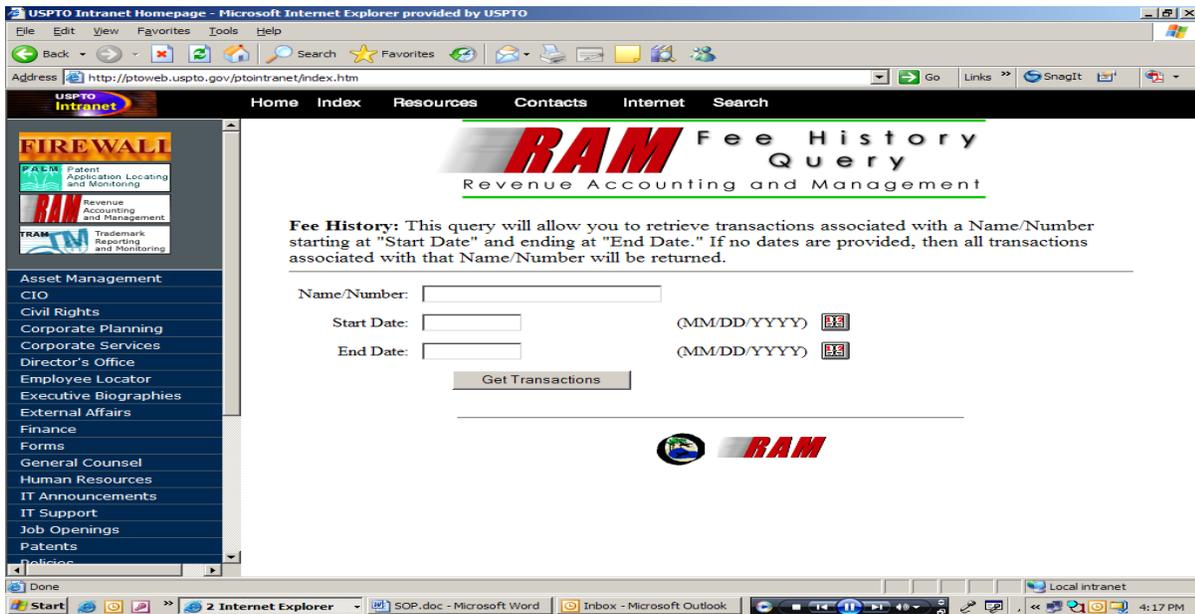

Figure 1-9: The RAM Fee History Query Page
Step 3: Click on the “Fee History” link, which opens the RAM Fee History Query Page (Figure 1-9).